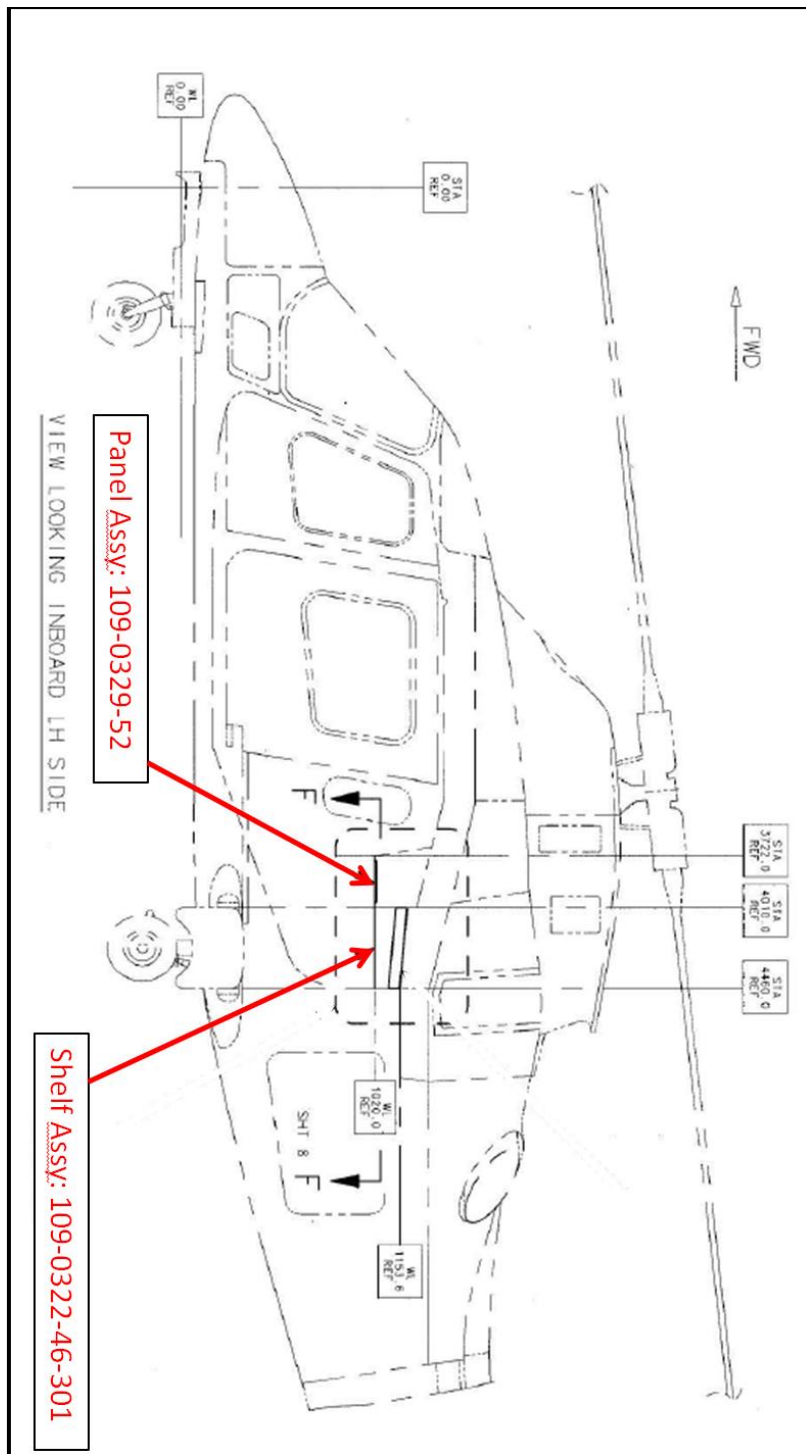

Figure 1 - Beam Assy STA4010.0 to STA4460.0 – Replacement procedures
1. Remove panel assy 109-0329-52 to gain better access to the work area (Figure 1).